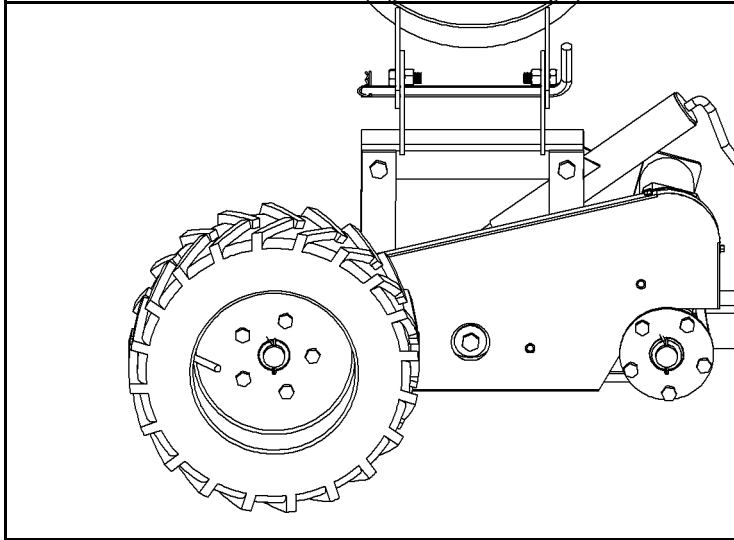

**Figure 2.4 Adjustable Bottom Clamp Angle**
1. Assemble bottom clamp onto Power Swing assembly, as shown in Figure 2.4. The long side of the clamp must face away from the wheels.
2. Use two 5/8" x 1-1/2" bolts (19590) and flange nuts (27588) for the pivot point (at the front of the clamp). Tighten the bolts loosely enough that the clamp angle is adjustable. For the rear of the clamp, use the L-shaped pin as shown in Figure 2.4.